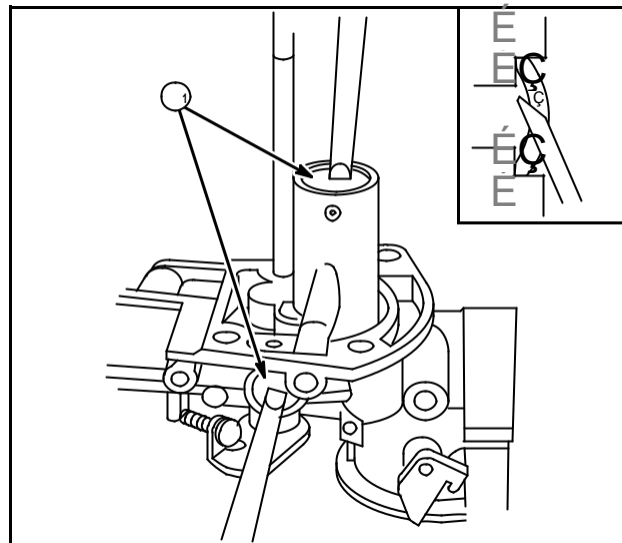

Fig. 65
4. With a modified 1/4 inch (3.9 mm) pin punch, remove welch plug(s) (1) from carburetor body, Fig. 65. DO NOT remove fixed jet.